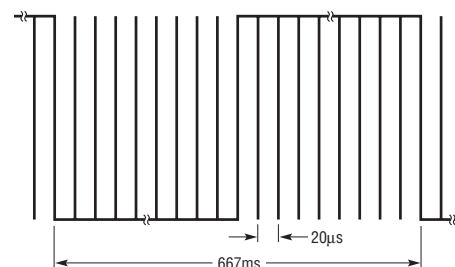

Figure 7. \overline{CHRG} temperature fault waveform
If a battery temperature fault occurs during high rate charging, the \overline{CHRG} pin blinks using a serrated pulse pattern. Nominal timing of this pattern is given in Figure 7. The extra edges provide rapid indication to a microprocessor and may be used to drive a microprocessor interrupt line for low processor overhead, but still provide for a visible fault indication when using LEDs.
Figure 7. Two identical resistive dividers (R_A and R_B) shift the DC level of the input (and output) to within the limits of the LT6411. $V_{0,DC}$ must have a low impedance at the frequencies of interest, and must be capable of sourcing and sinking currents through the internal resistors.
(DC) is necessary? Figure 7 shows one method of level-shifting and maintaining signal response down to DC. The R_A - R_B resistive dividers set the input common-mode voltage for the LT6411. Choose R_A and R_B so that the common-mode voltage at the input of the LT6411 is the same as $V_{0,DC}$, the desired output common-mode voltage. The gain of the LT6411 with the resistive divider is $2 \cdot R_B / (R_A + R_B)$, and this circuit has a response to DC. If the input DC common-mode level ($V_{I,DC}$) is greater than the $V_{0,DC}$, then R_B should be attached to ground instead of the positive supply.